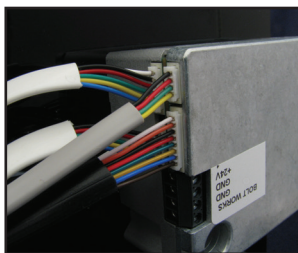

Figure 6
4. Double check all cables are inserted into the correct slots on the lock and Interconnect Box (Figure 6).